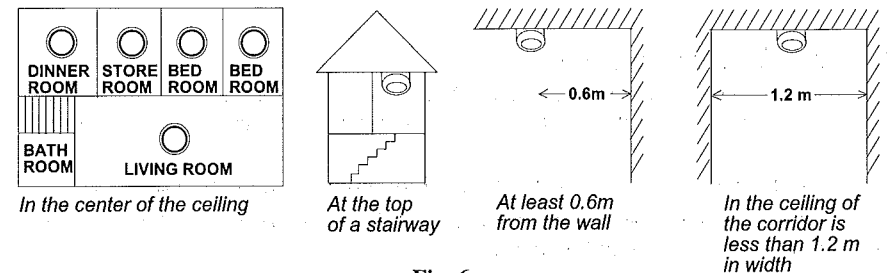

Fig. 6
6. Locate the smoke detector properly (refer to Fig. 6), and fixed the bracket with the two supplied screws on the ceiling. And then mount the smoke detector on the bracket.